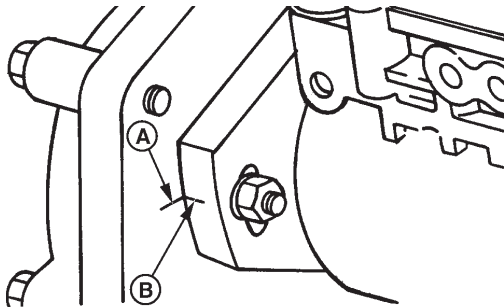

Figure 19 Reproduced by permission of Deere & Company, c.2004. Deere & Company. All rights reserved.
6. Attach JDG670A Drive Gear Puller (Figure 19-A) to injection pump drive gear as shown.
9. Check to make sure that timing marks on back side of front plate (Figure 19-A) and injection pump flange (Figure 19-B) are present and properly aligned. This assures that repaired or replacement pump can be properly timed to engine when installed.
IMPORTANT: Injection pump mounting flange timing mark (Figure 19-A) and front plate timing mark (Figure 19-B) presence and alignment MUST be verified before removing pumps from engine. DO NOT reference internal timing marks (on pump cam ring and governor weight retainer). If timing mark is not clearly visible on front plate, make a visible reference mark as accurately as possible in-line with mark on pump flange.